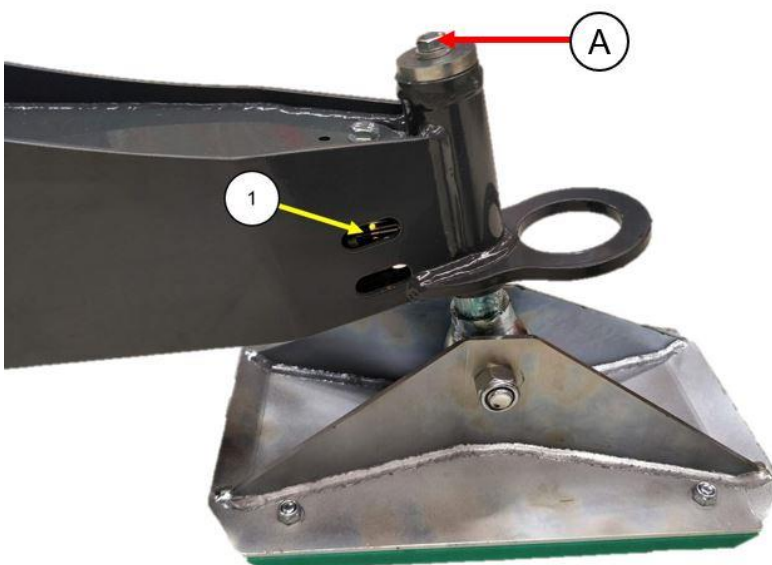

Figure 20 Outrigger position sensor pin locking screw (A) and outrigger limit switch (1)
The position sensor pins on the outriggers should be cleaned and greased with water resistant (e.g. Mobil XHP 222) during the yearly maintenance of the access platform. The pin is removed from the outrigger by opening the locking screw on the end of the outrigger (figure 20, A). The pin is moved by a spring which is to be removed before the greasing. Apply only a thin layer (< 1 mm) of grease on the surface of the pin by using a brush for example. After greasing install the spring back on the pin and place the pin back on the outrigger and lock carefully it with its screw.
Hydraulic oil level can be checked with the dipstick in the filler cap (Figure 20 (1)). Oil level should be at the upper mark in the dipstick when the lift is in transport position (booms down on transport supports and outriggers completely up).